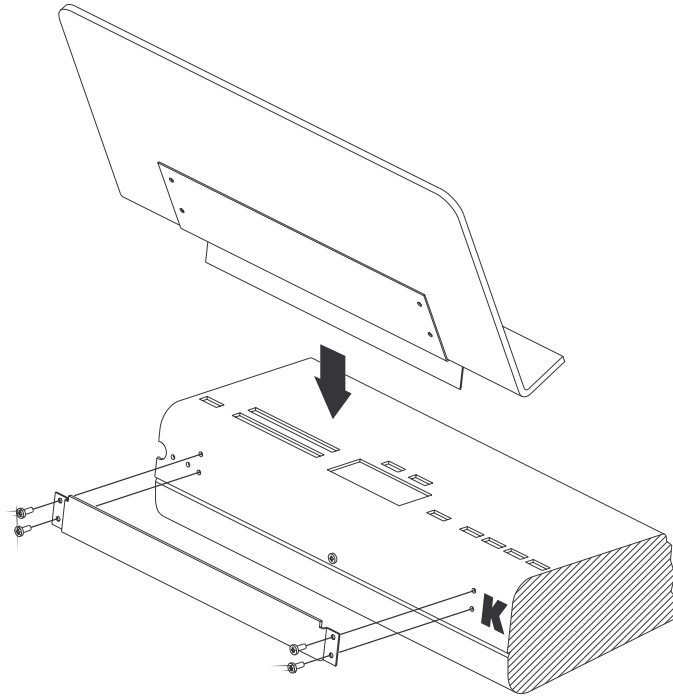

Figure 2-2 **Installing the music rack**
1. Remove the four screws on the rear panel of the PC2, as shown in Figure 2-2.